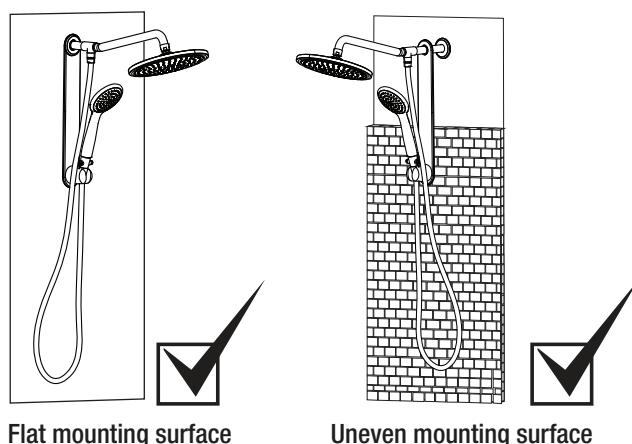

Fig. 1
1. Installs on both flat and uneven surfaces of up to 1 1/2" (38 mm), see Fig. 1.